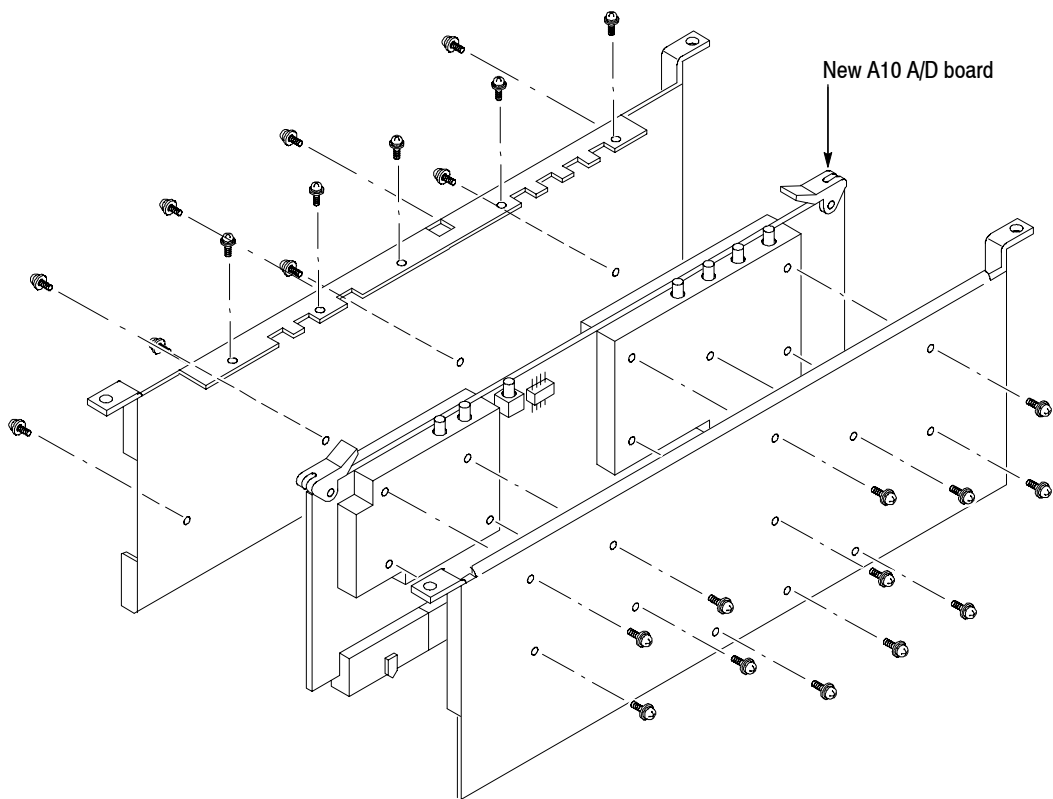

Figure 6: Attaching the shield brackets
1. *Attach the shield brackets:* See Figure 6 below.